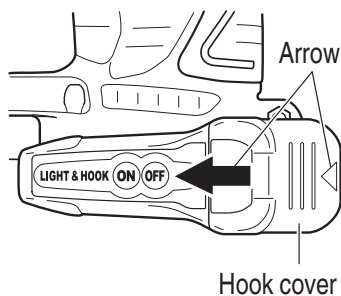

Fig. 15
Remove the hook cover by pushing in the direction of the arrow. (**Fig. 15**)
- (c) Align the indentation in the hook main body with the protuberance of the hook cover, press the hook cover in the direction opposite to that of the arrow shown in **Fig. 15** and then tighten the screw.